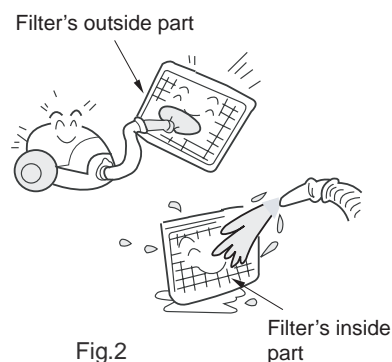

Fig.2
- If the cleaning is carried out with water, the filter's inside part must be oriented towards you (Fig. 2).